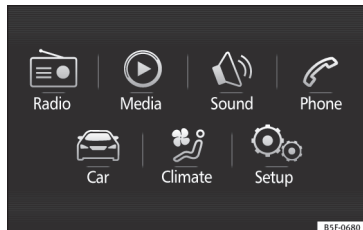

Fig. 41 See position on page 9-10
- Press the system's **MENU** button and then the system's **CAR** button or **CAR** button to go to the **CAR** menu » Fig. 41.